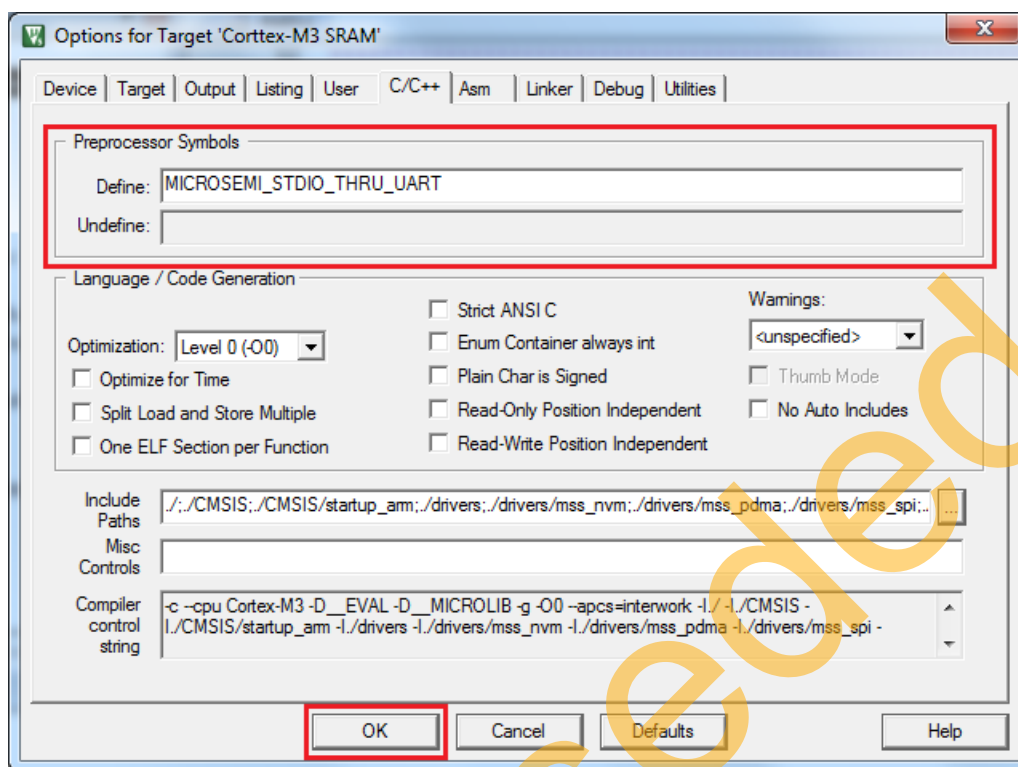

Figure 25 • Target Options-Add Symbols
- b. Go to **C/C++** tab and enter **MICROSEMI_STUDIO_THRU_UART** at **Define** under Preprocessor Symbols as shown in Figure 25 on page 22.